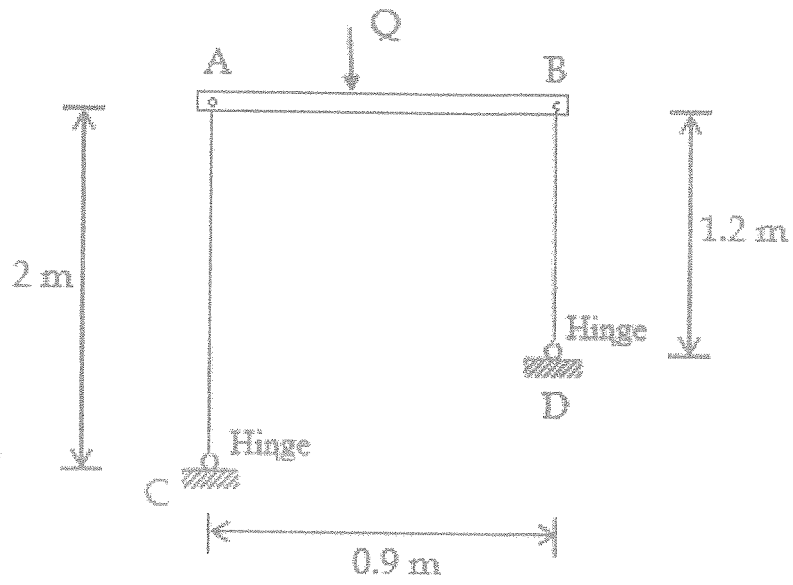

Fig. Q4
- b) A beam of length 0.9m is supported on two pin-ended struts as shown in Fig. Q4. The beam AB is installed in such a way that it can only be moved in the vertical direction but not allow to sway. The strut AC has a length of 2m with rectangular shape cross section with the size of 40 mm x 20 mm. The strut BD has a length of 1.2m of circular cross section having diameter of 20mm.